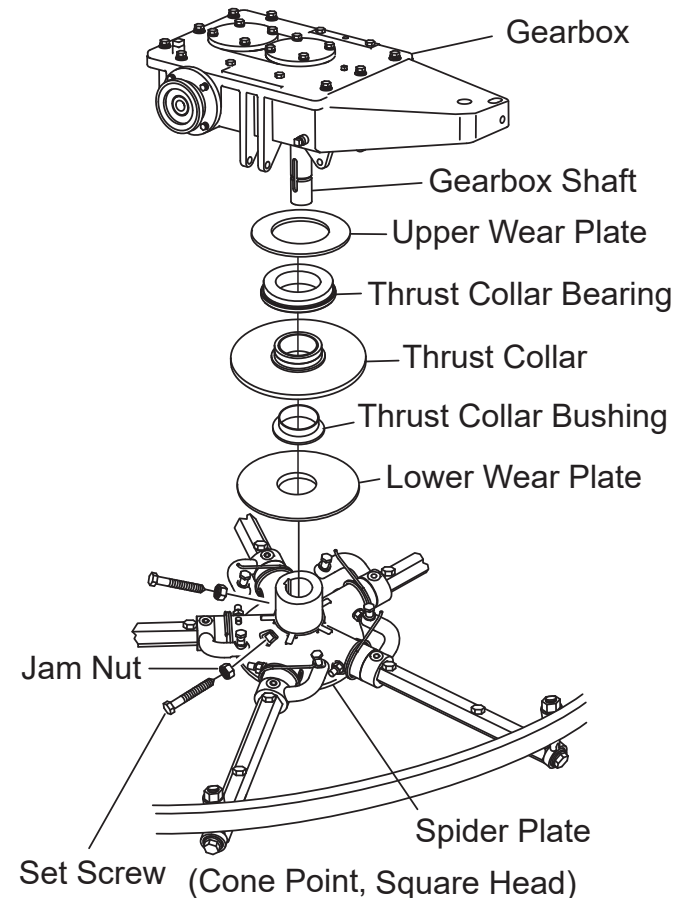

Figure 41. Spider Removal
1. Locate the cone point square head set screws (2) and attached jam nuts (2) found on the side of the spider assembly. See Figure 41.